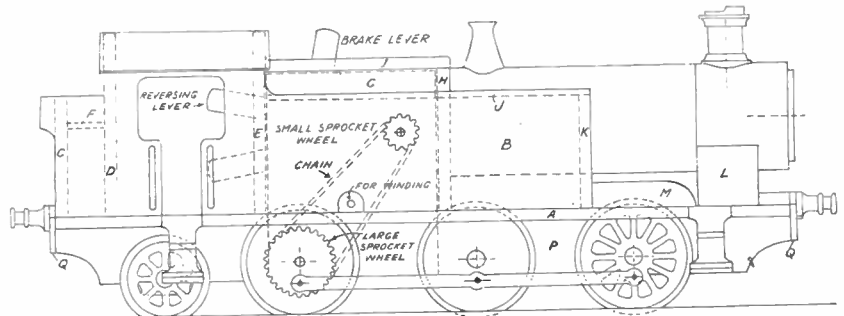

Fig. 2—A side detail showing position of lettered parts
The front casing pieces (K) are cut to the measurements given in Fig. 5. Piece M forming the front wheel guards (Fig. 2) are  $\frac{3}{16}$  in. thick.
The base of the funnel is "saddled" over the boiler by first laying a piece of glasspaper round the latter and then rubbing the base along it. The safety-valve (Fig 2) is shaped from a small block of wood and "saddled" as advised for the funnel.
Each of the eight wheels is made in two parts as already mentioned. The wheels are  $\frac{1}{4}$  in. thick, six being  $2\frac{1}{4}$  ins. in diam. and two  $1\frac{1}{2}$  in. diam. Spokes to the wheels could be cut with the fretsaw as indicated in Fig. 2.